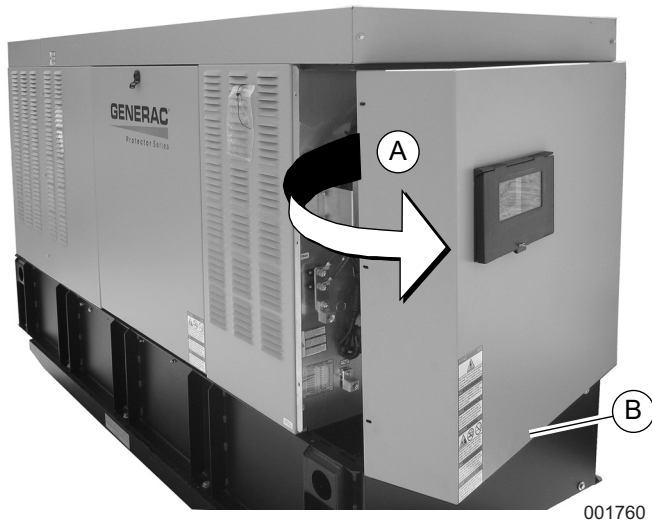

Figure 5-1. Remove Rear Panel and Stub-Up Cover
1. See **Figure 5-1**. Remove six screws with nylon washers to release rear panel (A) from enclosure. For best results, rotate left side of panel outward away from enclosure before disengaging right side.
NOTE: See *Figure 5-1*. Remove knockout plug and route accessory wiring to customer supplied weather-proof junction box. Verify wires do not contact moving or vibrating engine parts, as abraded wires can result in electrical problems.